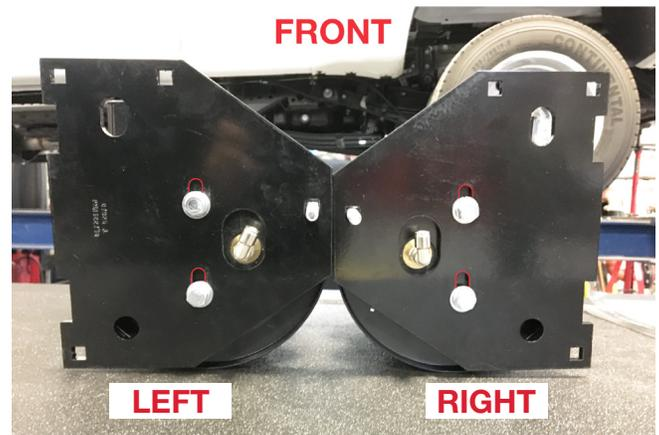

Fig. 8
- Insert 3/8"-16 x 1 1/4" carriage bolts (N) into the square holes on the brackets, then secure the upper air spring bracket (E) onto the top of the air springs using 3/8"-24 x 7/8" hex bolts (X), 3/8" lock washers (Y) and 3/8" flat washers (S). At this stage, the air spring assemblies are left- and right-hand units. Push the brackets as far forward as possible (Fig. 8). Torque the hardware to no more than 20 lb.-ft. (27Nm).
6. When installing the lower brackets onto the air spring assemblies already assembled (step 2, Fig. 8), if you have a sway bar-equipped vehicle, make sure the lower bracket assembly you assembled for the passenger's (right) side, is assembled on the passenger's (right) side air spring assembly. Using the holes specified in step 5, for vehicles not equipped with sway bars, it will not matter which assembly the lower bracket fits on.